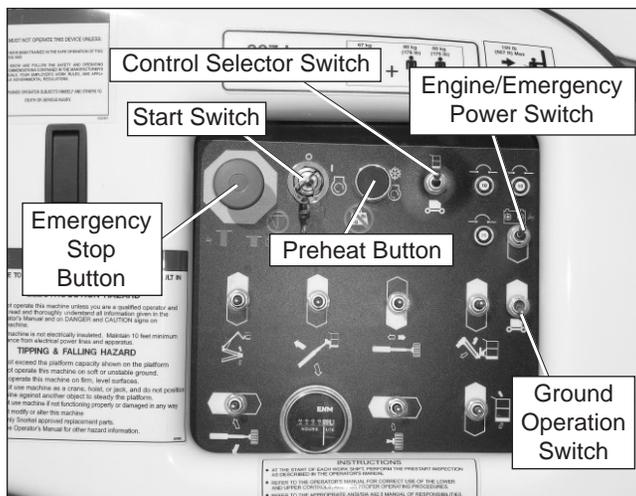

Figure 8.1 – Lower Controls
1. Place the emergency stop switch (refer to Figure 8.1) in the on position and place the controls switch in the ground position.